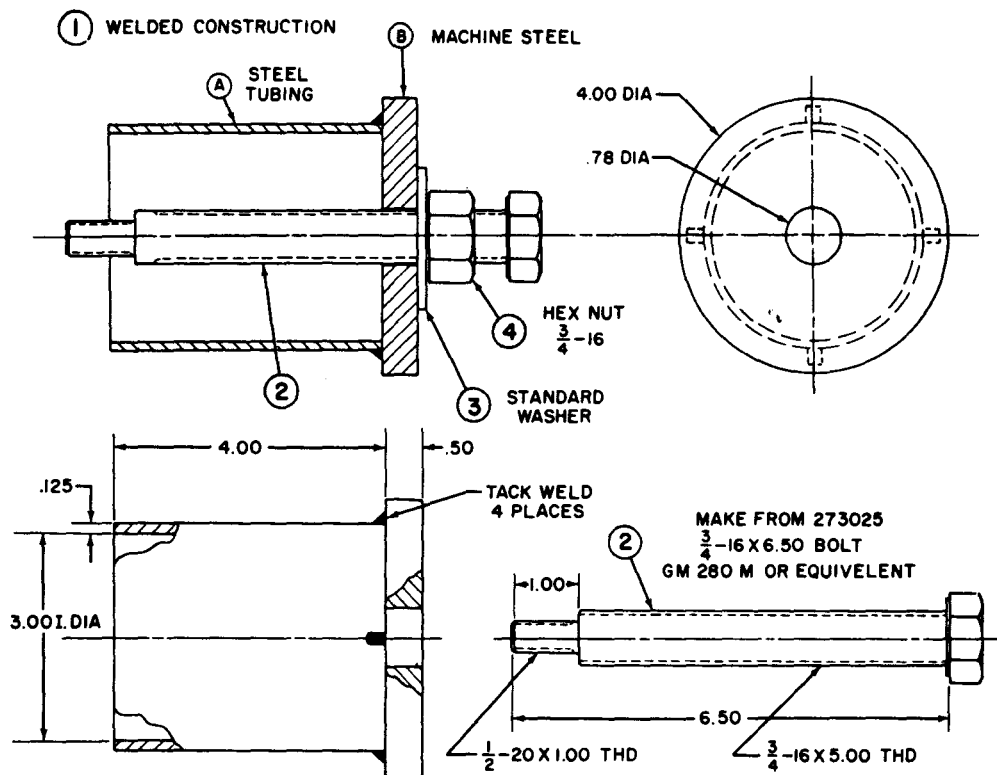

Fig. IV-1. Special tool for removing transfer idler gear spindle
(1) Transfer idler gear spindle puller (fig. IV-1).